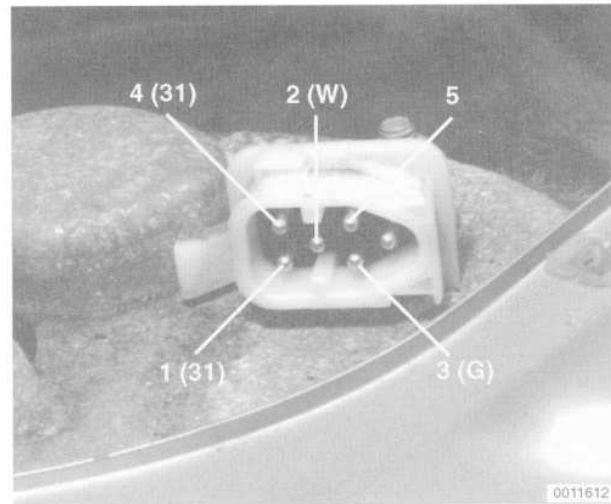

Fig. 10. Fuel pump/level sender terminal identification.
- Connect ammeter between terminal 5 in connector and corresponding pump terminal. Connect terminal 4 in connector to corresponding pump terminal using an insulated jumper. See Fig. 10.